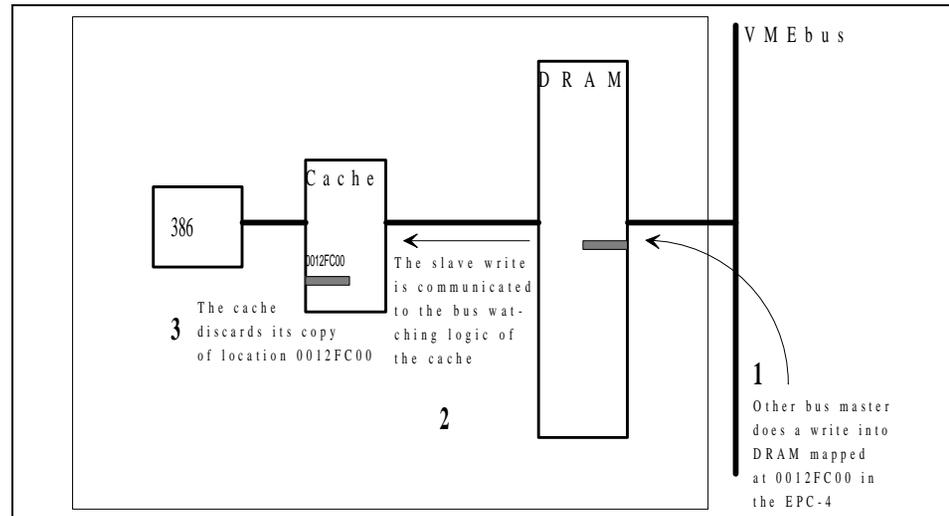

Figure 15: Example of Cache Bus Watching Logic
3. The cache performs "bus watching" on write accesses from another VMEbus master to the EPC-4's dual-ported memory. If another processor writes into a memory location that is cached, the entry is purged from the cache (so that a subsequent read of the location from the EPC-4 fetches the updated value from memory). See Figure 15 below for an example.